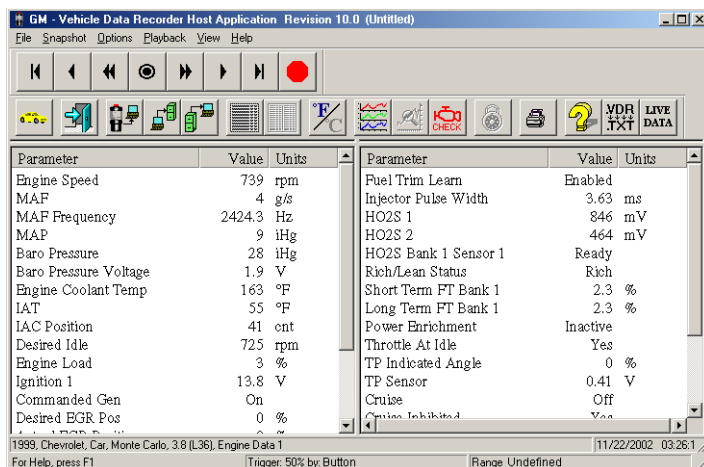

Figure 4.3: Snapshots Display Area
- 3 **Click the line for the snapshot** to upload and then click the **OK** button. The indicator light on the top of the VDR tool blinks to verify the upload. When the upload is complete, the snapshot appears in the main window's display area (Figure 4.3 on page 41) and the indicator light on the top of the VDR tool stops blinking but remains lit.